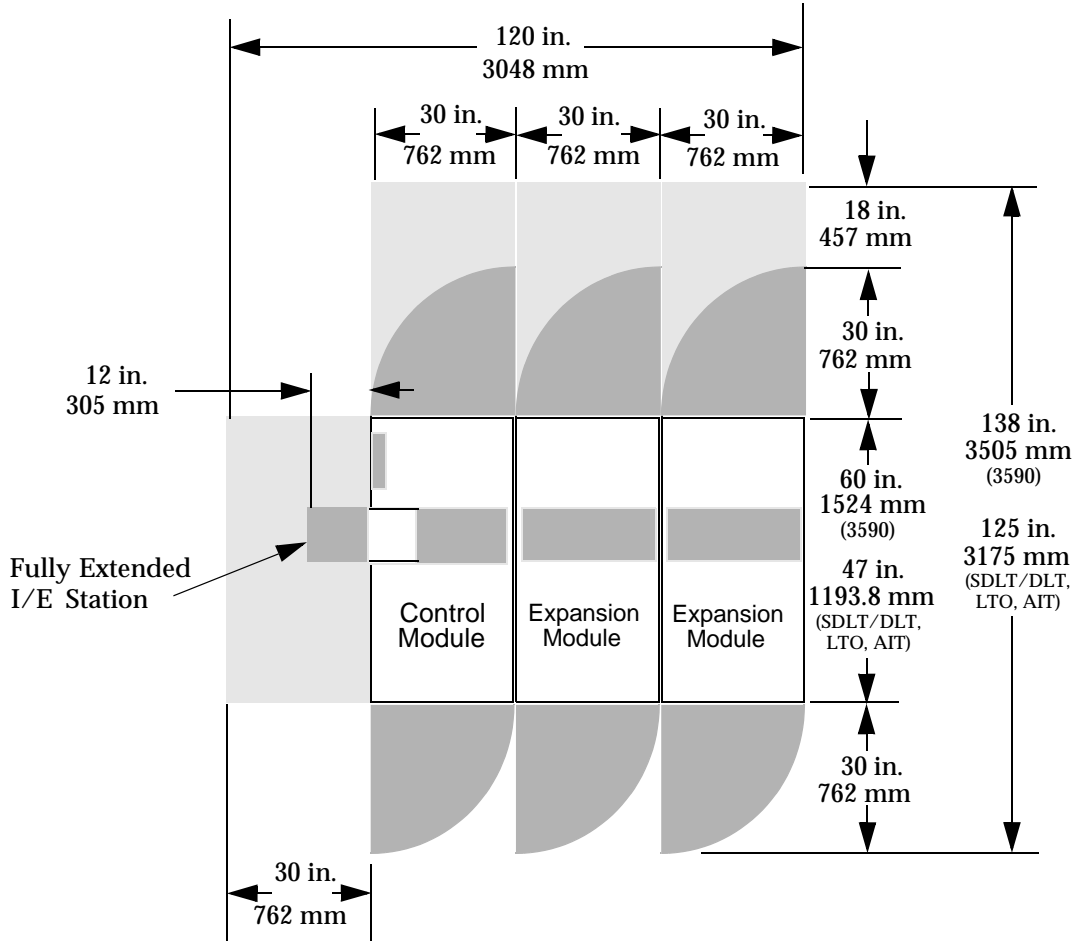

Figure 3-3 Library with Two Expansion Modules
- Library with Two Expansion Modules, Figure 3-3 on page 3-6